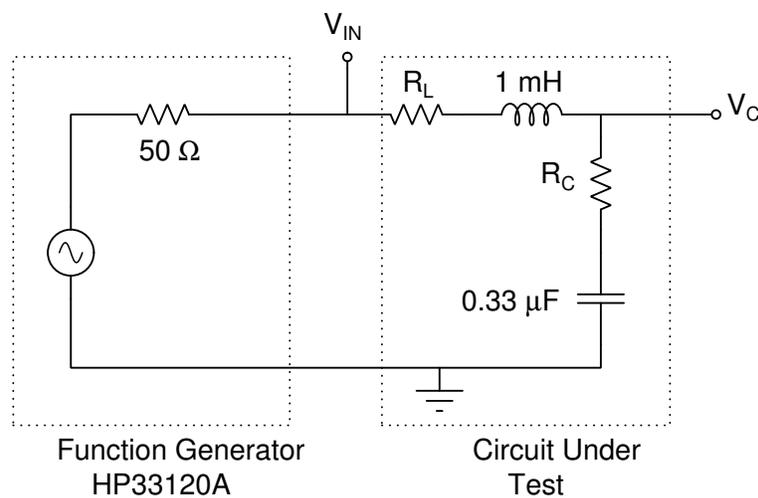

Figure 2: RLC Circuit to simulate.
2. Simulation. In Micro-cap build the circuit as shown in Figure 2 using the values for the resistors determined in the previous section.